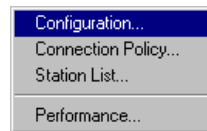

Figure 5-1. The FDDI Menu
1. In the Chassis View window, click on **FDDI**; drag down to select the SMT entity of interest, then right to reveal the FDDI menu (Figure 5-1).